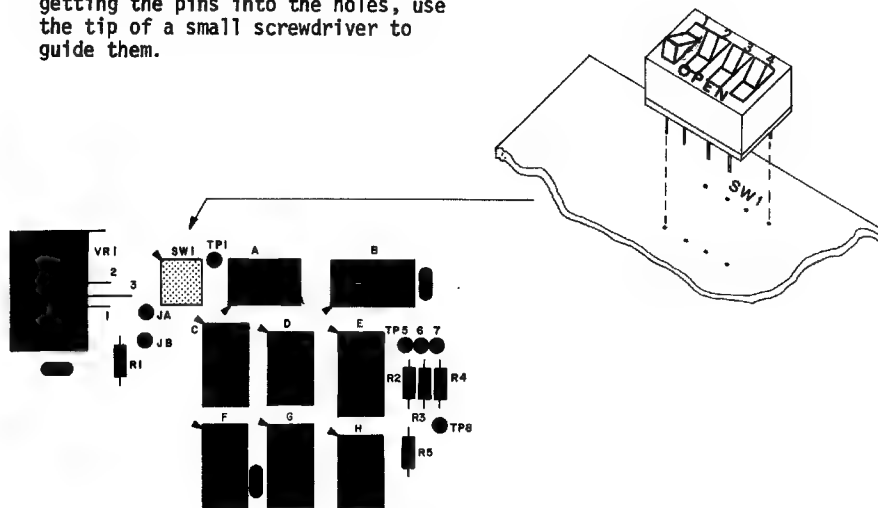

Figure 3-8. Address Switch Installation
3-20. ADDRESS SWITCH INSTALLATION (Figure 3-8)
2. Orient the switch so that the numbers 1,2,3,4 line up directly under SW1 as shown in Figure 3-8.